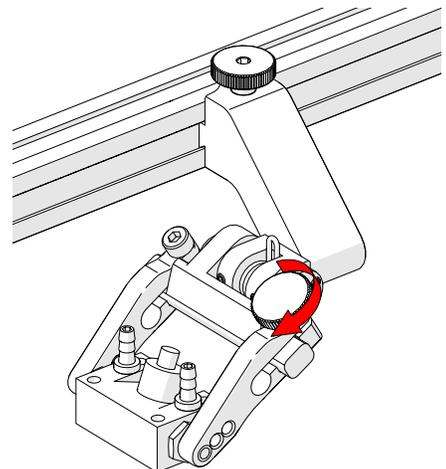

Fig. 38 - Tighten probe holder knob
7. Tighten the probe holder arm adjustment knob (Fig. 38).